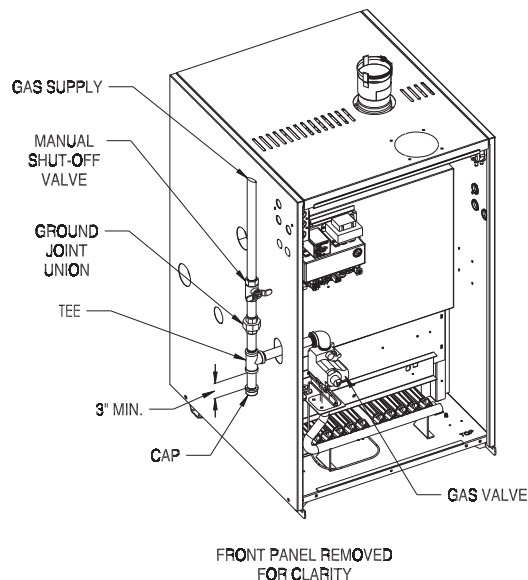

Figure 8.1: Gas Connection To Boiler
- c. Install sediment trap, ground-joint union and manual shut-off valve upstream of boiler gas control valve. See Figure 8.1.